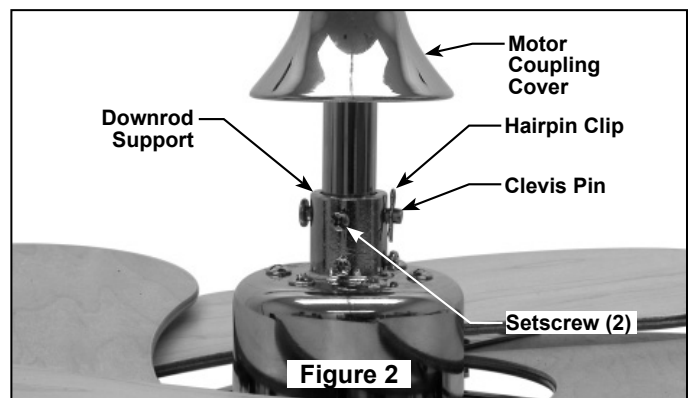

Figure 2
5. Loosen the two setscrews in the Downrod Support. Align the Clevis Pin holes in the Downrod with the holes in the Downrod Support. Install the Clevis Pin and secure with the Hairpin Clip. (Figure 2) Be sure to push the straight leg of the hairpin clip through the hole near the end of the clevis pin until the curved portion of the hairpin clip snaps around the clevis pin. The hairpin clip must be properly installed to prevent the clevis pin from working loose. Pull on the Downrod to make sure the clevis pin is properly installed. (Figure 2)
6. Route wires through opening in Motor Coupling Cover. Position Motor Coupling Cover on fan shown with open side facing down. (Figure 2)
9. While pulling up on the hanger ball, securely tighten the two 3/16-24 x 3/8" setscrews in the downrod support. (Figure 2)
1. Securely attach the hanger bracket to the outlet box using the outlet box screws and washers supplied with the outlet box (Figure 2).
NOTE: Outlet box screws pass through slotted holes of the hanger bracket (Figure 2).
3. Carefully lift the fan and seat the downrod/hanger ball assembly on the hanger bracket that was just attached to the outlet box (Figure 3). Be sure the groove in the ball is lined up with tab on the hanger bracket (Figure 2).
- Slide remote Receiver into the Hanger Bracket (Figure 2).